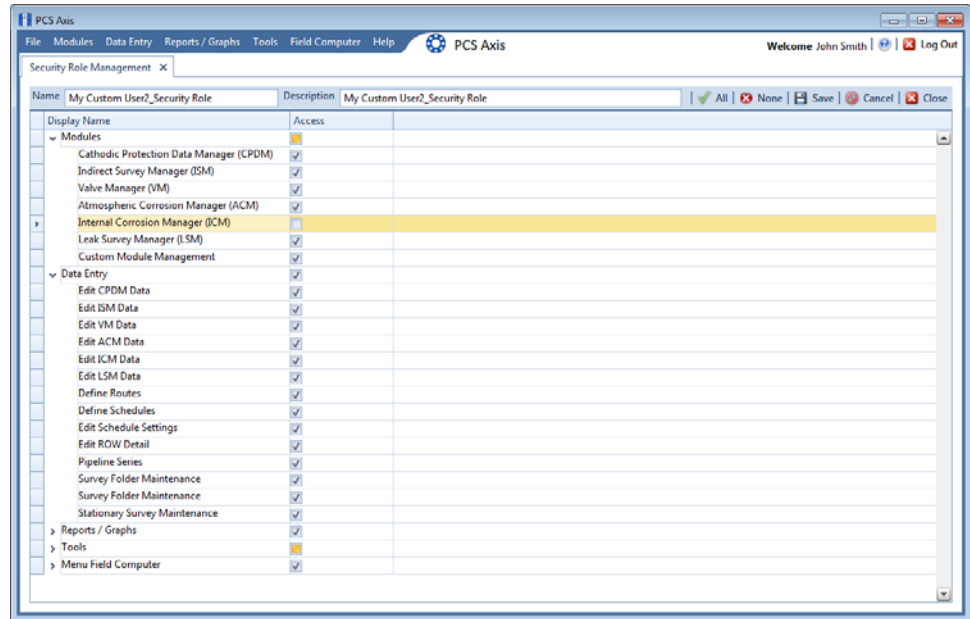

Figure 3-19. Security Role Management
- 2 Click the down arrow in the **Role** field and select a custom security role in the selection list. Then click  **Edit** to begin editing permissions (Figure 3-19, page 59).